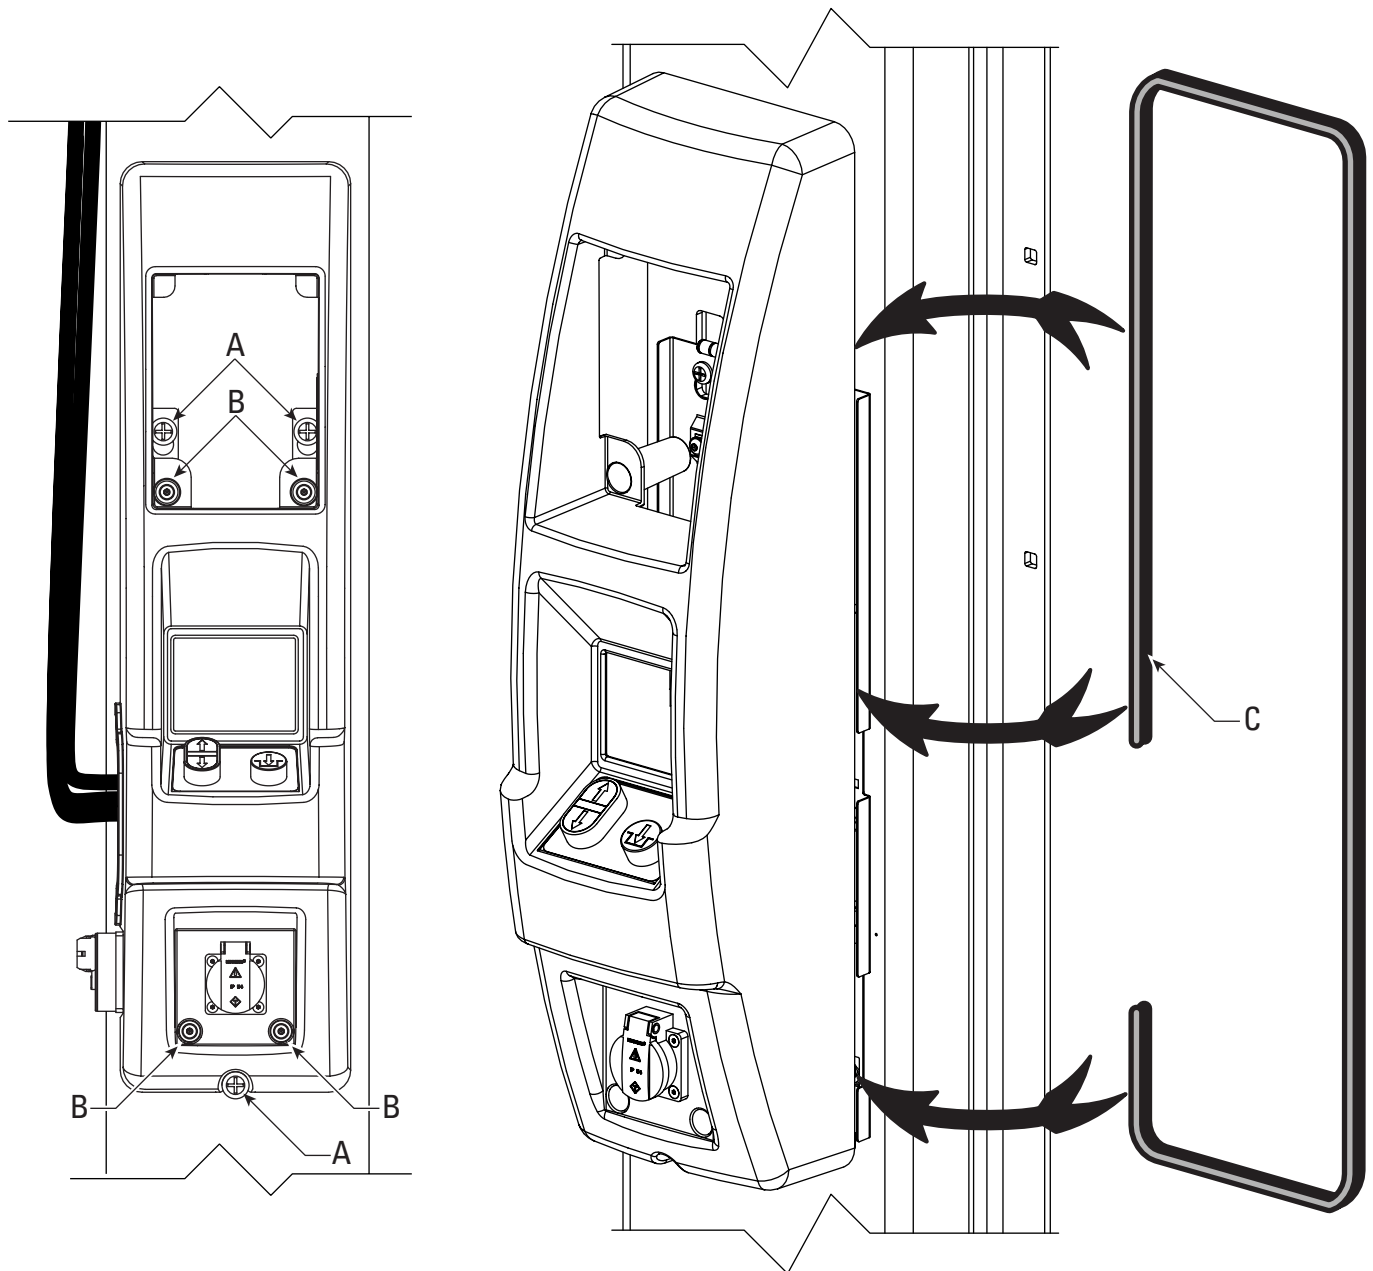

Fig. 33
- A) To install gasket on master side control, locate the (4) 5/16"-18NCx3/8" BHCS that hold down the black enclosure and loosen them by 3 or 4 turns, Fig. 33. Also loosen the (2) upper and (1) lower 5/16"-18NCx3/8" PHMS that hold the control unit to the column. Fit the gasket behind the master enclosure and tighten down the screws, Fig. 33. Tighten down the mounting screws until the gasket makes a good seal with the column. Do not over tighten.